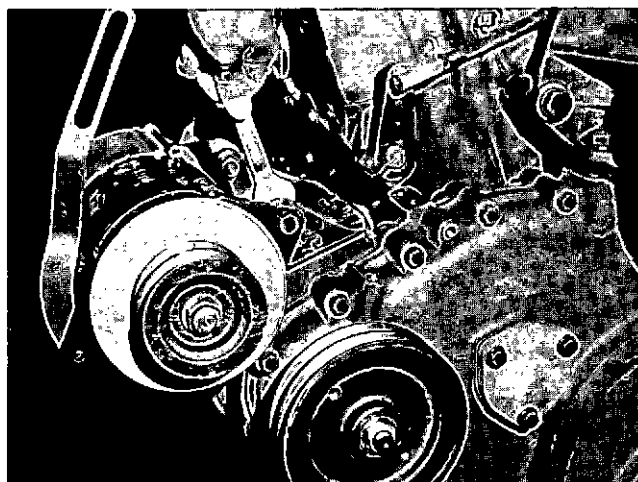

Fig. 14-1-100, V414203. Installing high-mount generator
2. Mount holding bracket to top of gear case. Fig. 14-1-100 and follow Low Mount assembly procedures.
3. Assemble generator to holding bracket on gear case. Fig. 14-1-100.